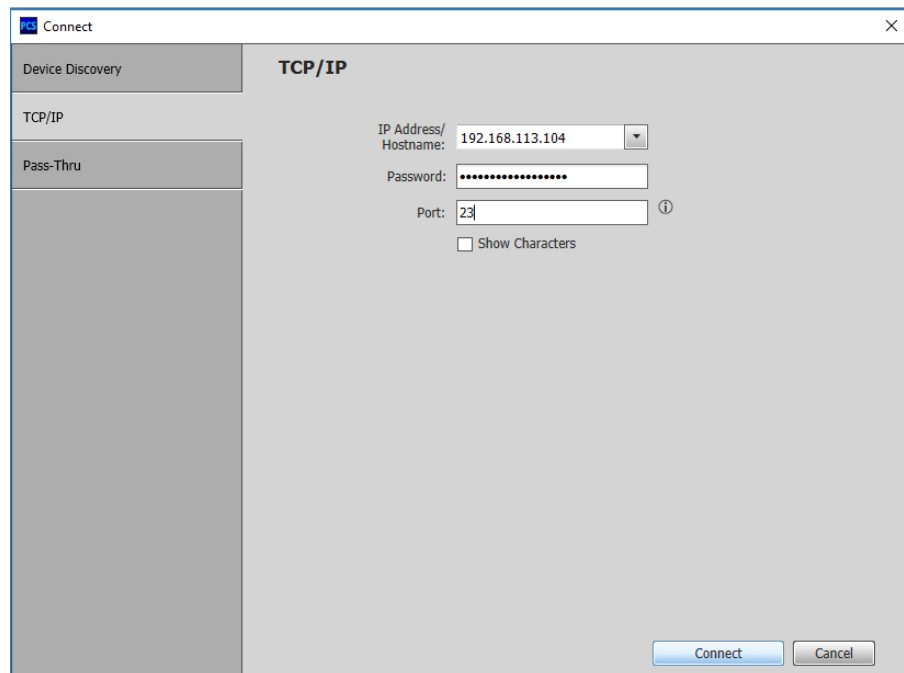

Figure 24. Example Connection Using the TCP/IP Option
- a. Click the **TCP/IP** tab. The TCP/IP panel appears (see figure 24).